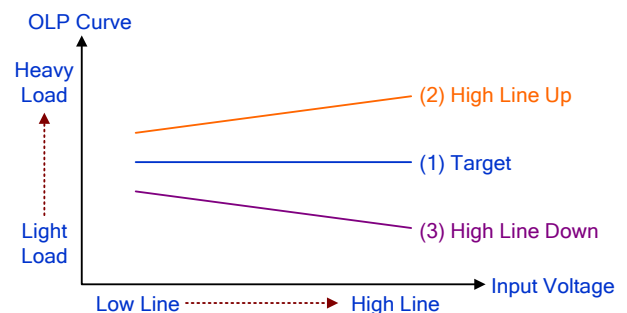

Figure 2. Curve Chart of OLP
In the beginning of propagation delay time compensation function setting, designers could set $R_{PDC} = 470\Omega$, and $C_{RC} = 100\text{pF}$. In Figure 2, the ideal output current should be the same as curve (1). No matter under high line or low line, the output current keeps the same. However, the propagation delay time varies OLP curve under different input voltages according to different designs of transformer inductance, parasitic capacitance of MOSFET, series resistance on the GATE of MOSFET. If the OLP curve is like curve (2), designers should increase the resistance of R_{PDC} ; if the OLP curve is like curve (3), designers should increase the capacitance of C_{RC} . Designers optimize the OLP curve through propagation delay time compensation to keep the same output current under different input voltages.